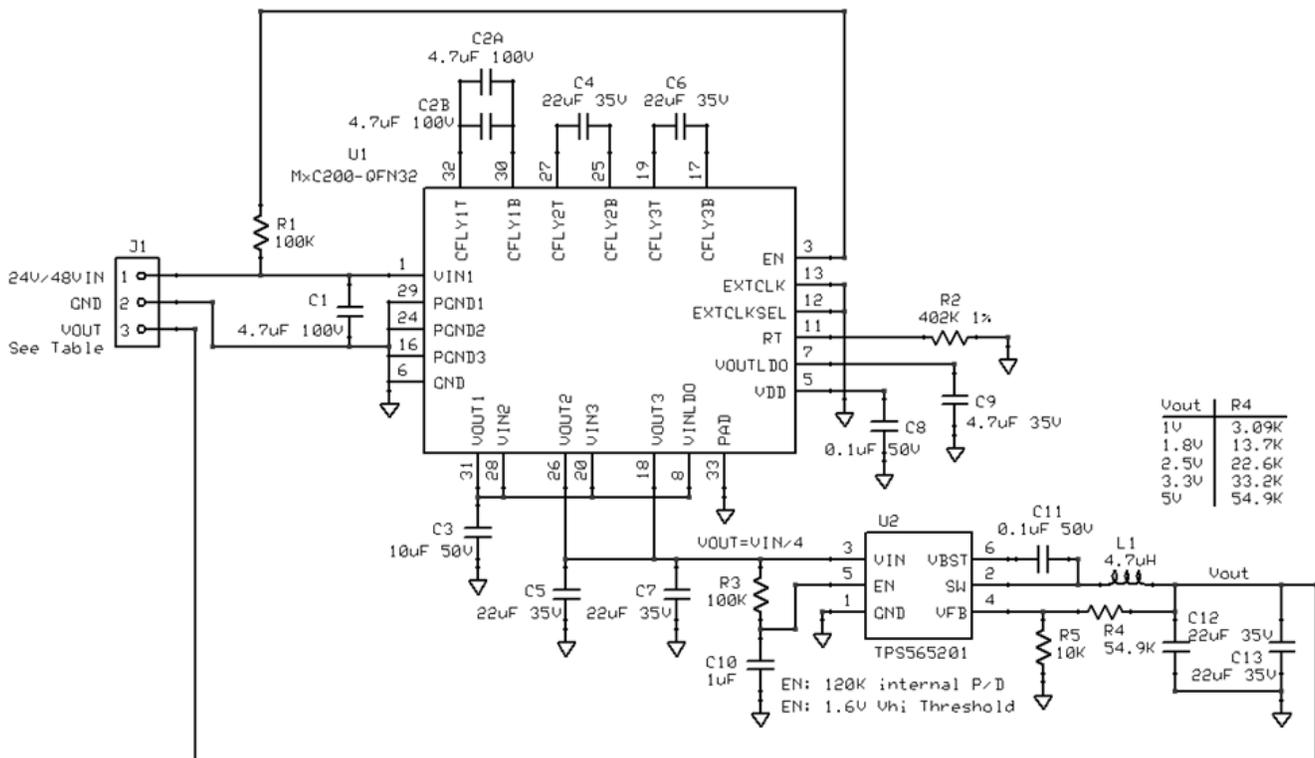

Figure 10: MxC 200+5V Buck Reg. Output EVB Schematic
- 3) Other buck regulator output voltages are available by changing R4. Refer to the VOUT Table in Figure 10.